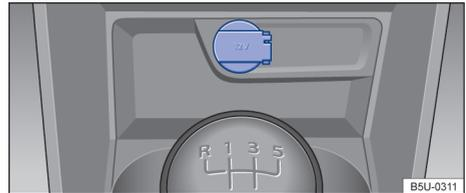

Fig. 106 In the front centre console: 12 V socket. ▶
- In the front centre console → Fig. 106.